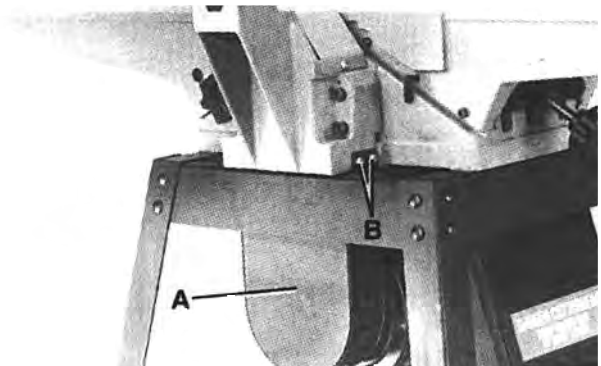

FIGURE 15
1. Assemble the motor pulley and belt guard (A) Fig. 15, to the jointer base using the four 1/2" long screws, two of which are shown at (B), and four lock washers. **WARNING: MAKE CERTAIN MOTOR PULLEY IS NOT CONTACTING GUARD.**